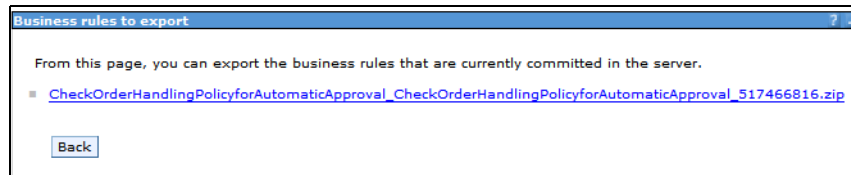

Figure 10-91 Exporting business rules: Resulting zip file
- ▶ A zip file is generated for download (Figure 10-91).